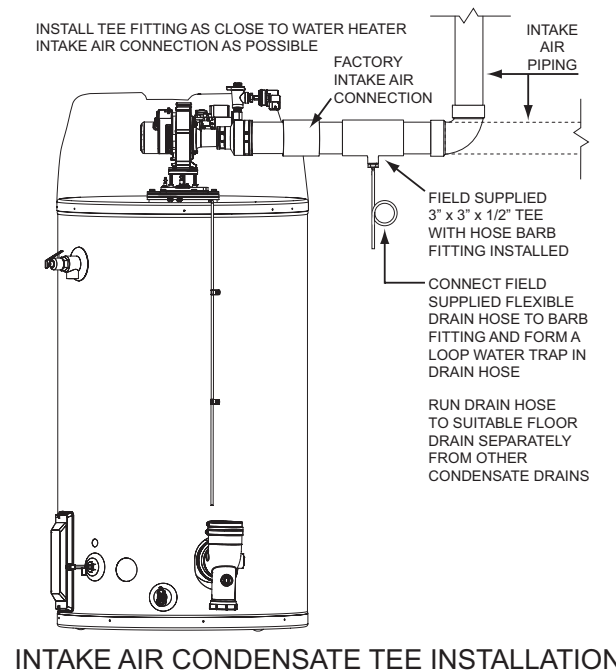

Figure 20
- A field supplied condensate Tee fitting and drain hose should be installed in the intake air piping near the water heater in colder climates with heavy snow accumulations and in areas that regularly experience high humidity. The drain hose should be routed to an adequate floor drain separate from any other condensate drains. See Figure 20 on page 25.